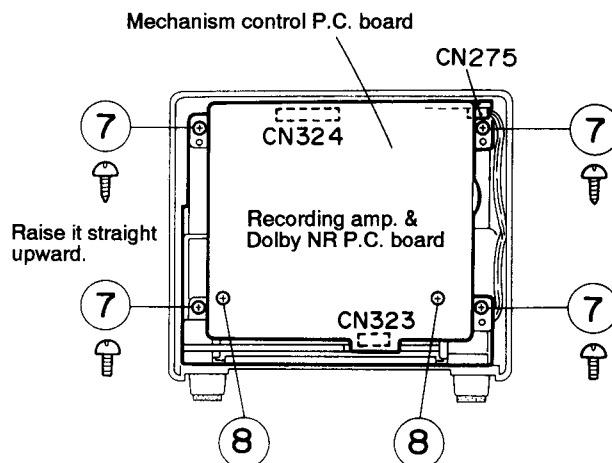

Fig. 5-11
■ Removing the cassette mechanism assembly (See Fig. 5-11)
2. Remove the four screws ⑦ retaining the cassette mechanism assembly.
■ Removing the recording amp. and Dolby NR P.C. board (See Fig. 5-11)
1. Remove the two screws ⑧ retaining the recording amp. and Dolby NR P.C. board.